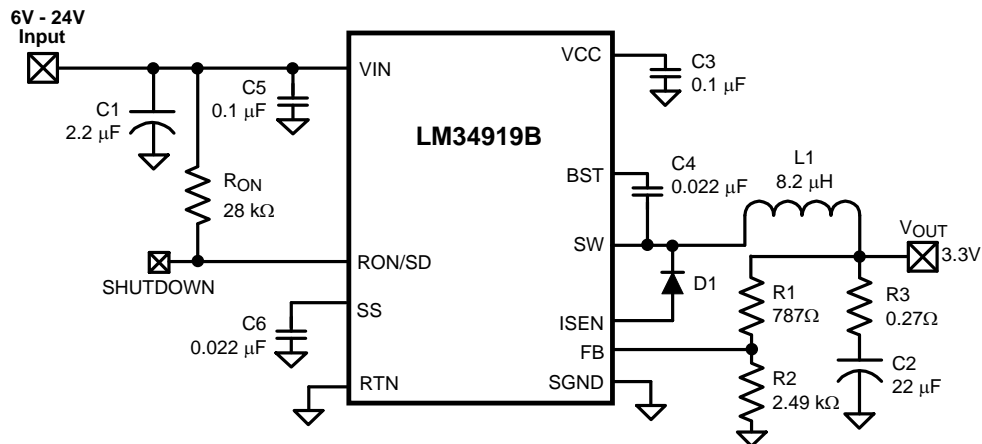
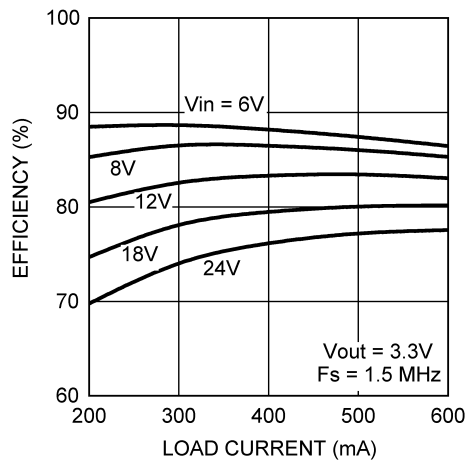
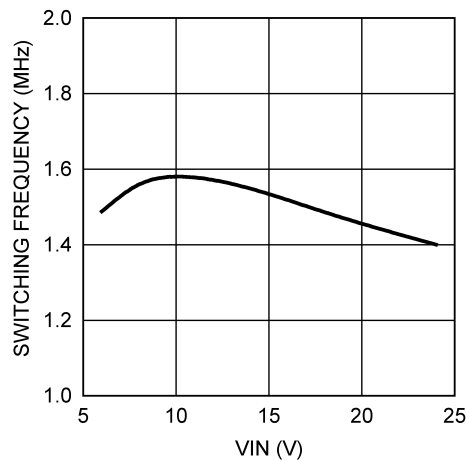
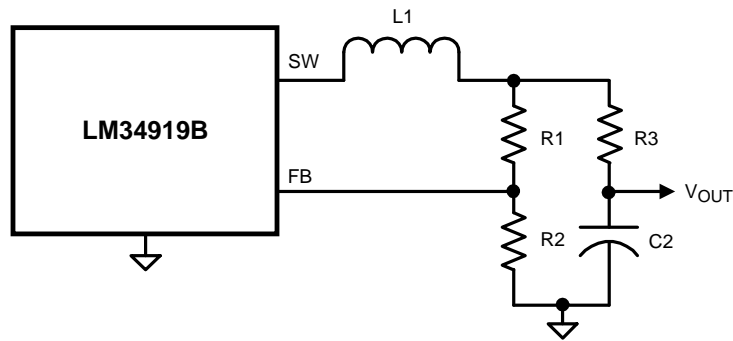

Figure 29. Example Circuit
Figure 30. Efficiency (Circuit of Figure 29)
Figure 31. Frequency vs. V_{IN} (Circuit of Figure 29)
Figure 34. Alternate Minimum Output Ripple Configuration
The final circuit is shown in Figure 29, and its performance is shown in Figure 30 and Figure 31. Current limit measured approximately 780 mA at 6V, and 812 mA at 24V.
c) Alternate minimum ripple configuration: The circuit in Figure 34 is the same as that in Figure 29, except the output voltage is taken from the junction of R3 and C2. The ripple at V_{OUT} is determined by the inductor's ripple current and C2's characteristics. However, R3 slightly degrades the load regulation. This circuit may be suitable if the load current is fairly constant.